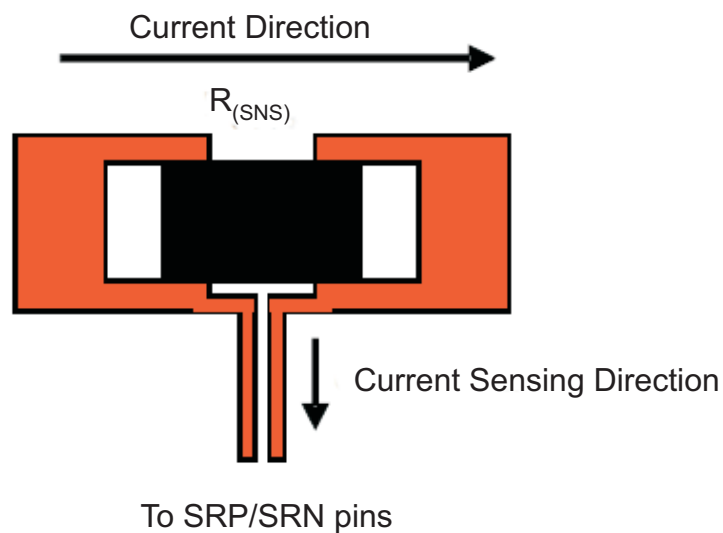

Figure 20. Sensing Resistor PCB Layout
3. The charging current sensing resistor should be placed right next to the inductor output. Route the sense leads connected across the sensing resistor back to the IC in same layer, close to each other (minimize loop area) and do not route the sense leads through a high-current path (see Figure 20 for Kelvin connection for best current accuracy). Place decoupling capacitor on these traces next to the IC.